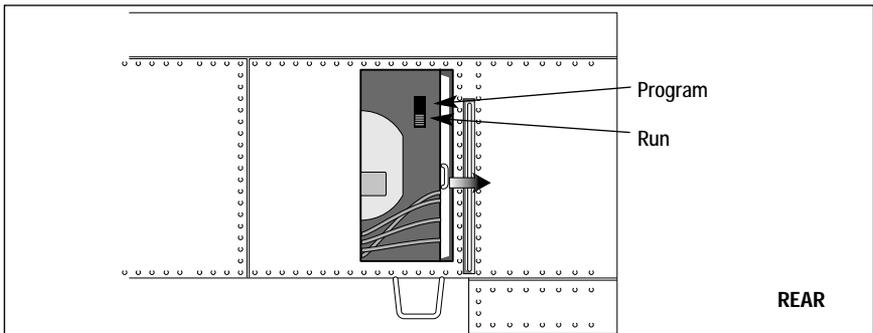

Figure 1. RUN/PROGRAM switch location
3. Slide open the small door on the left-hand side of the cab and slide the RUN/PROGRAM switch towards the top of the car. Refer to Figure 1.